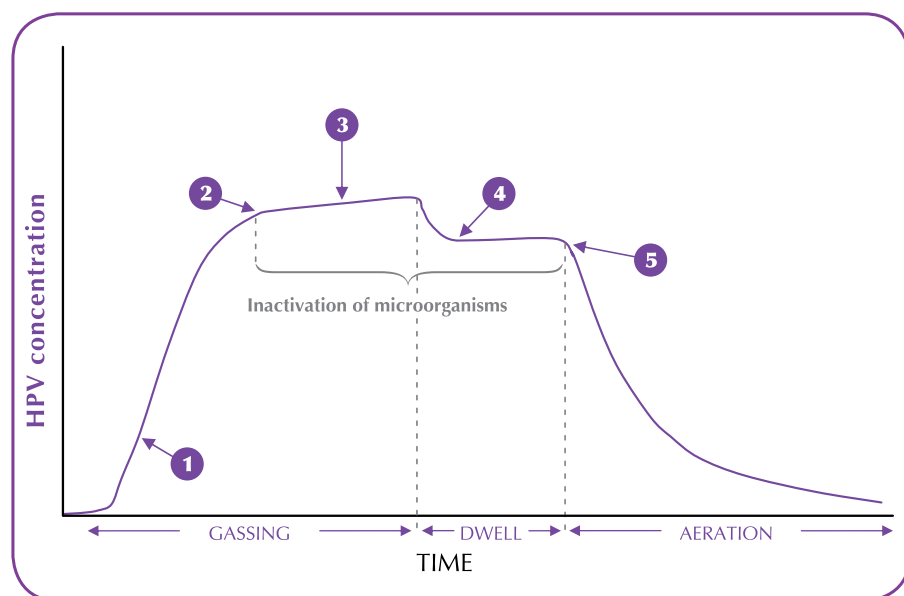

Figure 3. HPV cycle schematic
After equipment set-up, the bio-decontamination cycle (Figure 3) commences with the heating of the HPV generator vaporiser. This is described as the conditioning stage. Once the operating temperature has been reached, the gassing stage commences (1). Here, aqueous hydrogen peroxide is injected on to the vaporiser bar and the resultant HPV introduced directly into the target space at an elevated temperature. As more and more HPV is introduced, the air becomes saturated. When the air cannot hold any more HPV, dew point has been reached (2). At this stage, aqueous hydrogen peroxide will begin to condense as an even layer on all exposed surfaces. This is clearly identified when the rising hydrogen peroxide concentration curve starts to plateau over time (3).